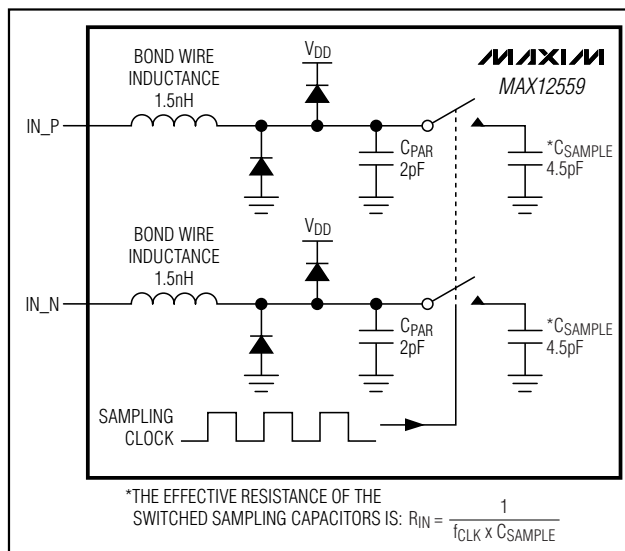
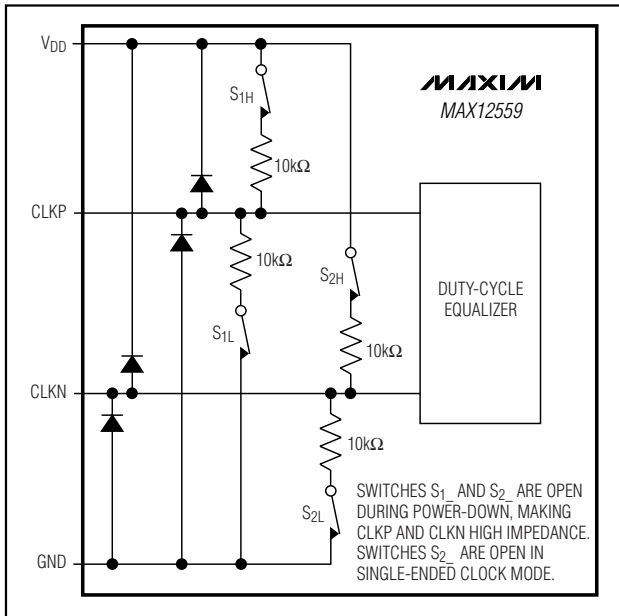

Figure 3. Internal T/H Circuit
Figure 4. Simplified Clock Input Circuit
Figure 3 displays a simplified functional diagram of the input T/H circuit. This input T/H circuit allows for high analog input frequencies (high IF) of 175MHz and beyond and supports a $V_{DD} / 2$ common-mode input voltage.
The MAX12559 sampling clock controls the switched-capacitor input T/H architecture (Figure 3) allowing the analog input signals to be stored as charge on the sampling capacitors. These switches are closed (track mode) when the sampling clock is high and open (hold mode) when the sampling clock is low (Figure 4). The analog input signal source must be able to provide the dynamic currents necessary to charge and discharge the sampling capacitors. To avoid signal degradation, these capacitors must be charged to one-half LSB accuracy within one-half of a clock cycle. The analog input of the MAX12559 supports differential or single-ended input drive. For optimum performance with differential inputs, balance the input impedance of IN_P and IN_N and set the common-mode voltage to mid-supply ($V_{DD} / 2$). The MAX12559 provides the optimum common-mode voltage of $V_{DD} / 2$ through the COM output when operating in internal reference mode and buffered external reference mode. This COM output voltage can be used to bias the input network as shown in Figures 9, 10, and 11.
The MAX12559 accepts both differential and single-ended clock inputs with a wide 25% to 75% input clock duty cycle. For single-ended clock input operation, connect DIFFCLK/SECLK and CLKN to GND. Apply an external single-ended clock signal to CLKP. To reduce clock jitter, the external single-ended clock must have sharp falling edges. For differential clock input operation, connect DIFFCLK/SECLK to OV_{DD}. Apply an external differential clock signal to CLKP and CLKN. Consider the clock input as an analog input and route it away from any other analog inputs and digital signal lines. CLKP and CLKN enter high impedance when the MAX12559 is powered down (Figure 4).
- 1) INAP/B, INAN/B analog inputs are disconnected from the internal input amplifier (Figure 3).